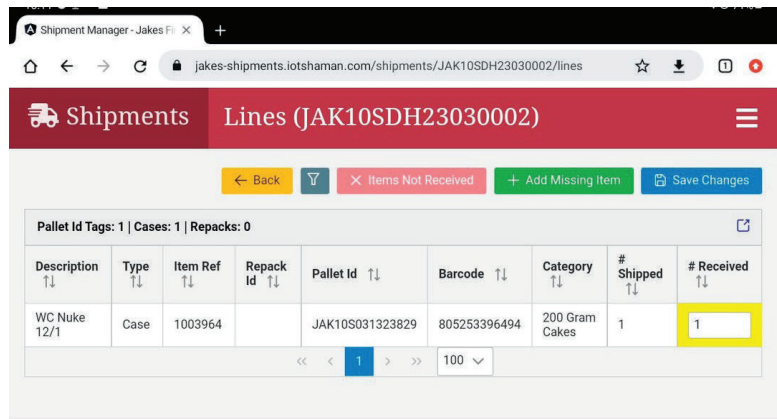

Figure 10
- f. Only the selected item will appear on the screen at this time (Figure 10)